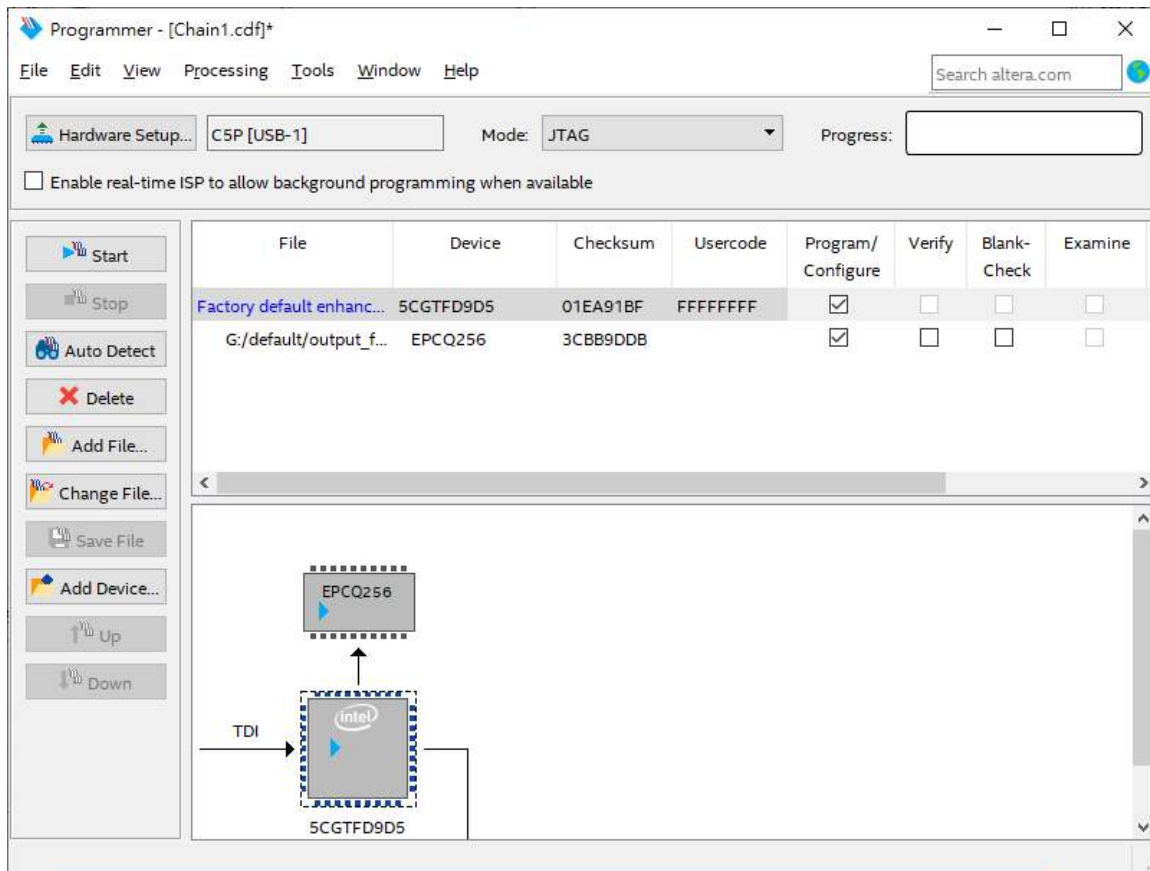

Figure 6-8 Quartus Prime Programmer window with .jic file
4. Program the EPCQ device by clicking the corresponding **Program/Configure** box. A factory default SFL image will be loaded, as shown in **Figure 6-8**.